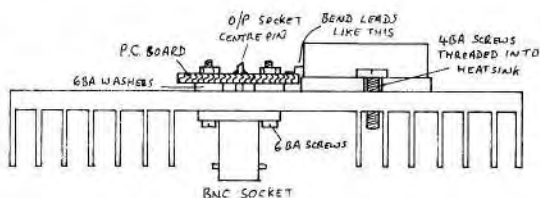

Fig.5 MECHANICAL ARRANGEMENT
For the type of heatsink I used I thought the best way of connecting the output would be to mount a BNC socket onto the heatsink (see fig.5) and let the centre pin protrude up through. The pin passes through the PC board itself and is soldered into the end of the output stripline. Because the top and bottom ground planes have been bonded together with wires, the board itself cannot lay flat against the heatsink. I spaced the board away using five 6BA brass washers (four on the BNC socket flange and one at the other end). This meant that the board could be firmly fixed and made a good ground connection.
3. Solder the stakethroughs in (use resistor wire offcuts or a piece of tinned copper wire) ensuring that the underneath solder joints are as low-profiled as possible. These may be filed flatter if they stand too proud for the washers. Now fit the PC board to the heatsink using the five washers (see fig.5) and finally solder the coax socket centre pin to the output line.
the module body, doing this more than a couple of times will surely break off the leads and render the module useless. (Well you never know if it will need to be removed at a later date, perhaps for re-fitting somewhere else). Grasp the lead against the module using a pair of long-nosed pliers, then bend it downwards. Now, using the pliers, bend the leads out again so that they lay flat on the board - trim off any excess (see fig.5).